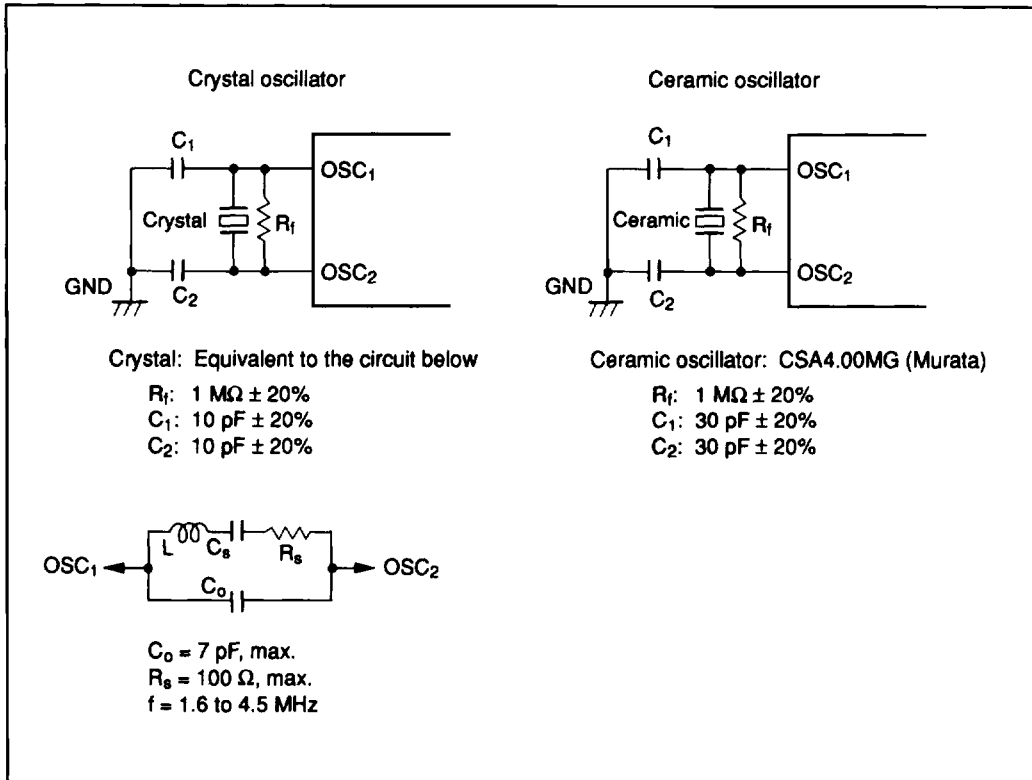

Figure 56 Oscillation Circuits (1)
1. The oscillation stabilization time is the period required for the oscillator to stabilize after  $V_{CC}$  reaches 3.0 V (3.5 V if  $V_{CC} = 3.5$  to  $6.0$  V: HD404720/HD404728/HD404729;  $V_{CC} = 3.5$  to  $5.5$  V: HD4074720/HD4074729) at power-on or after RESET input goes high after stop mode is cancelled (figure 56). At power-on and when stop mode is cancelled, RESET must remain high for at least  $t_{RC}$  to ensure the oscillation stabilization time. If using a crystal oscillator, contact the manufacturer to determine what oscillation stabilization time is required, since it depends on the circuit constants and stray capacitances.